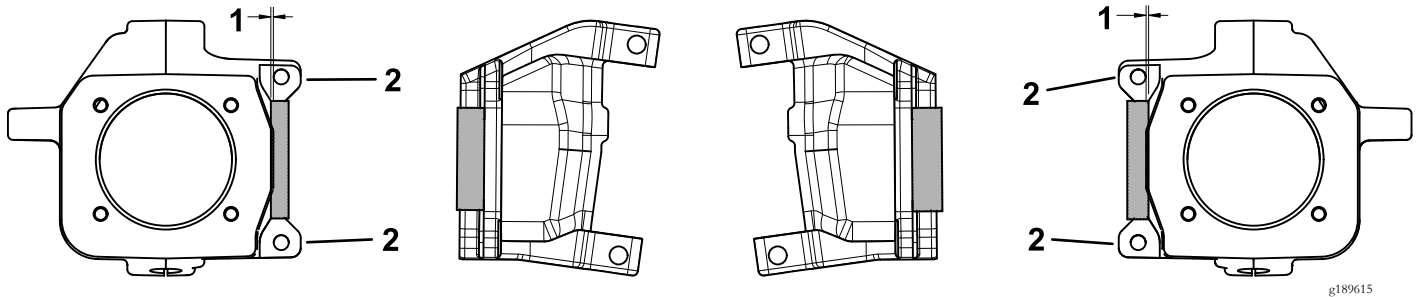

Figure 7
1. Grind 1.78 mm (0.07 inches) relief into the right and left steering knuckles as shown in Figure 7.
Important: Do not grind the surfaces shown in Figure 7.
2. Grind 0.76 mm (0.03 inches) relief into each side of the rear axle as shown in Figure 7.